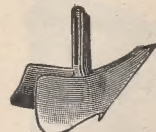

Fig. 145
A Special Plow for sowing onion seed for sets is shown in Fig. 145. It scatters the seed in a row over 3 inches wide, and will fit our Nos. 6, 7, 15, 16 and 22 drills. Price,
**The Seed Sowing Device** sows the seed in a continuous row, or drops in hills at 4, 6, 8, 12 or 24 inches apart. The change from one method to the other is instantly made. The index adjustment and revolving brush agitator are the same as used on all our "IRON AGE" Drills, of which there are many thousands being used by the leading gardeners, and pronounced by them "the best." The agitator not being made of iron, absolutely injures no seed. The opening plow is clog-proof, rides down all trash. Special opening plow shown in Fig. 145, page 4, for sowing onion seed for sets will also fit this tool. The marker is pivoted at the rear and can be thrown from side to side by the foot.